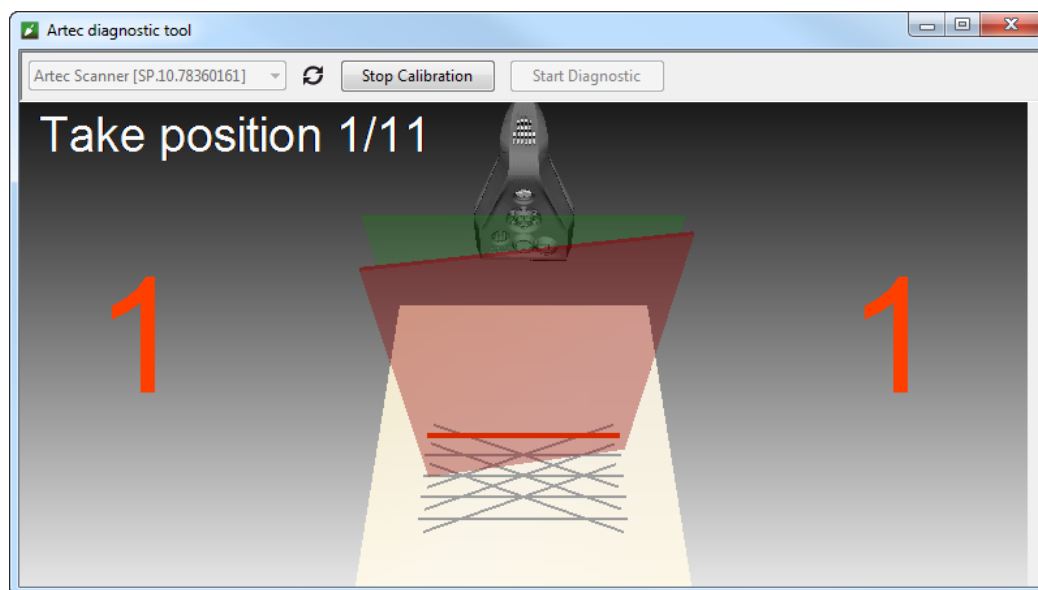

Figure 141: Moving calibration rig to position number 1.
7. Place the rig in its initial position such that the front edge of its base coincides with the color line numbered 1 on the pattern. As you do so, also keep an eye on the *3D View* window for a red plane (current position) and a green plane (target position)—see Figure 141. Once the red plane coincides with the green one, stop moving the rig and wait for the scanner to capture the plane.